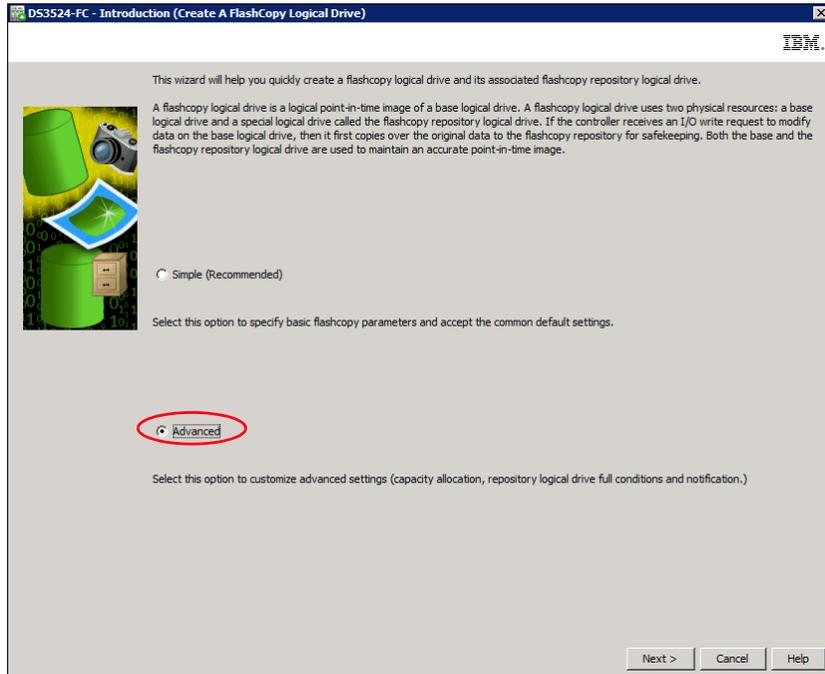

Figure 2-14 Create FlashCopy Logical Drive Wizard: Advanced
4. If you select the Advanced path from the Create FlashCopy Logical Drive Wizard Introduction window (shown in Figure 2-14), click **Next**.